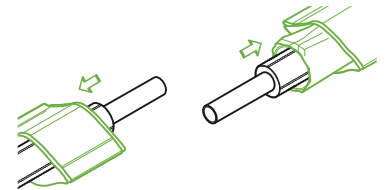

Fig. B12.2.1
1. Before the service pipe compression connection is made, slide the heat shrink sleeve with heat shrink bands over the pipe outer casing (Fig. B12.2.1), ensuring that the joint area is clean and free from dust and dirt.